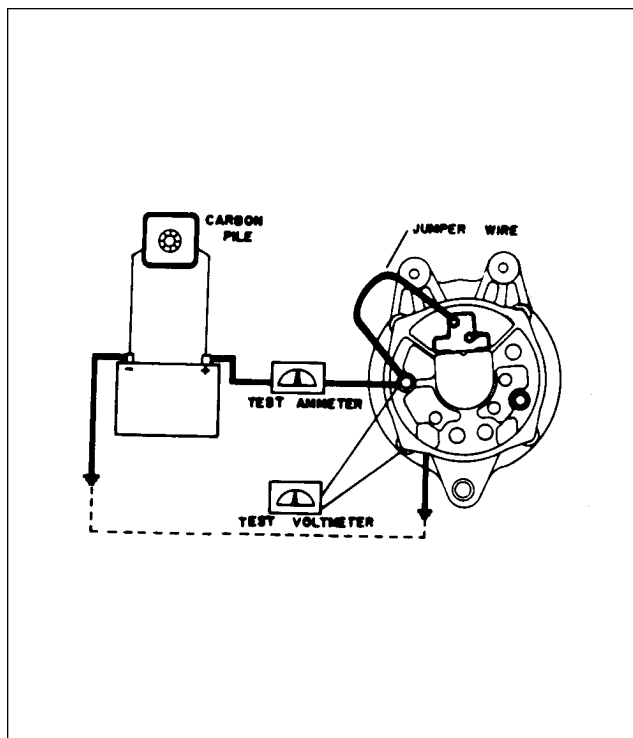

Figure 11-34. Testing Alternator
- Wiring connections for bench testing the alternator are shown in Figure 11-34. Refer to the individual specification pages for output test figures. Adjust the carbon pile, if necessary, to obtain the specified voltage.